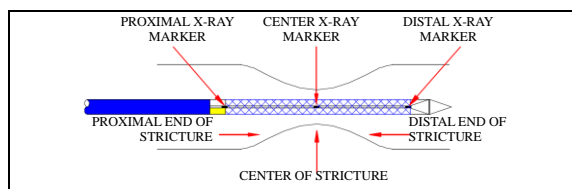

Figure 4
- When the center X-ray marker reaches the center of target stricture, continue pulling back on the connector until the stent is fully deployed. (See figure 4, 5)